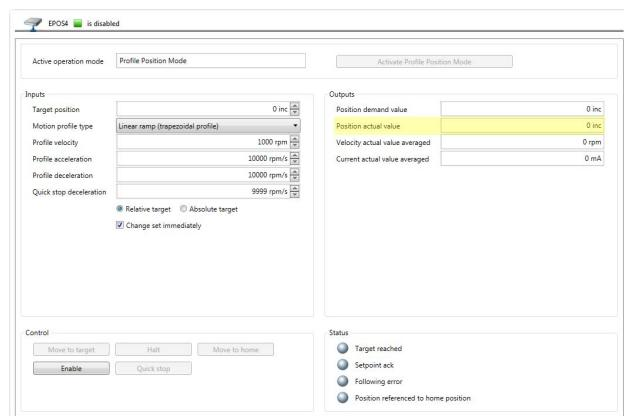

Figure 7-68 Adjustment of SSI commutation offset value | Check sense of rotation
- c) The indication «Position actual value» (→Figure 7-68) must increase.